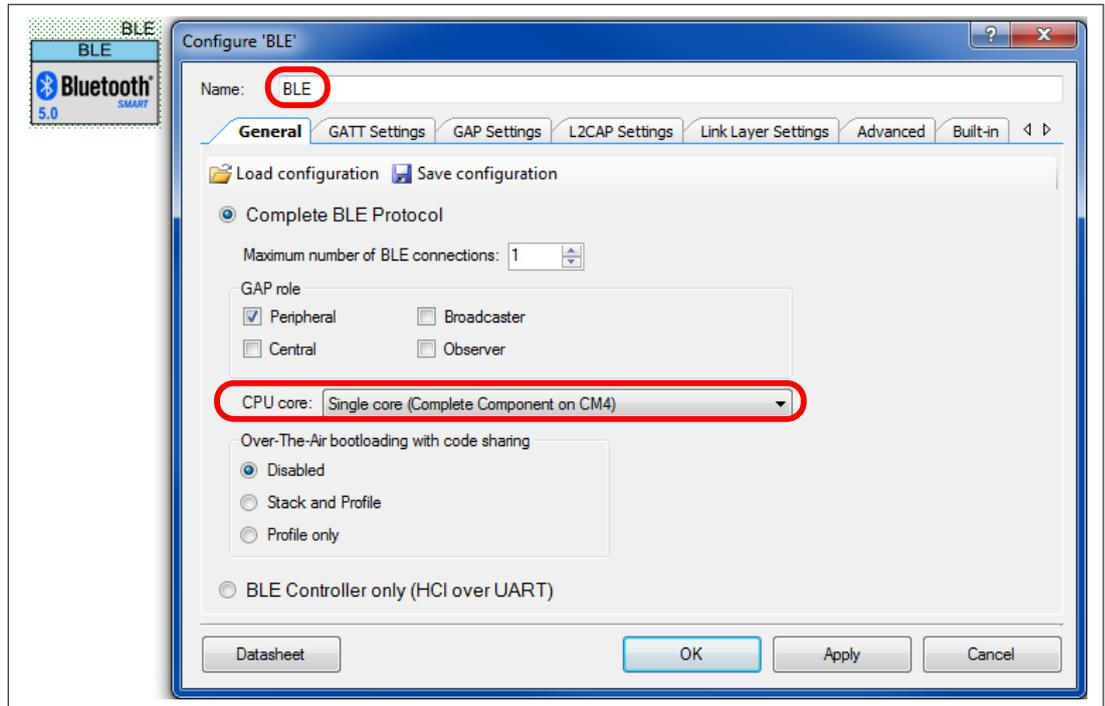

Figure 24 PSoC™ Creator BLE component, General Tab configuration
- **General** tab (see Figure 24): CPU core: **Single core (Complete Component on CM4)**